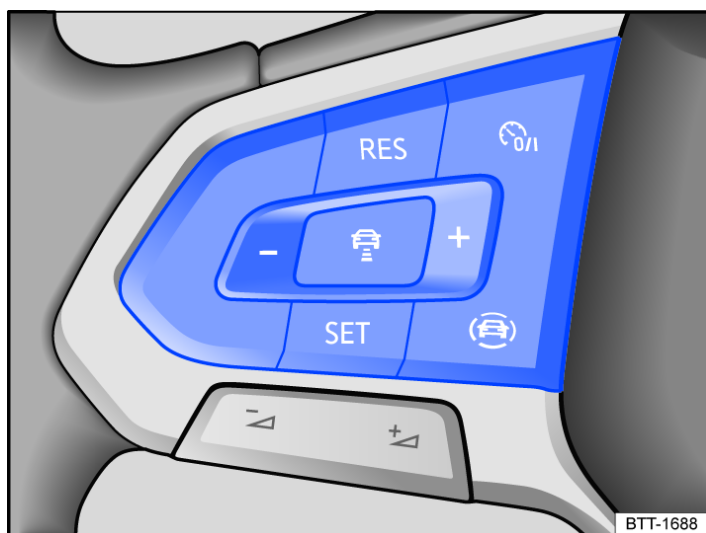

Fig. 1 Left-hand side of the multifunction steering wheel: buttons for operating the ACC.
The radar sensor always measures straight ahead. For this reason, vehicles may be incorrectly detected or vehicles driving ahead not detected in tight bends → Fig. 1 A.
- Vehicles that are driving outside the sensor range in close proximity to your vehicle, e.g. motorbikes → Fig. 1 B.